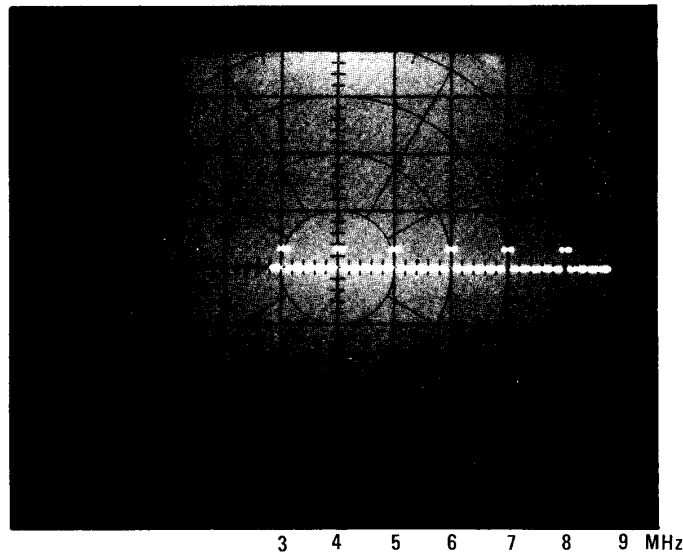

Figure 4-15. 4-MHz Marker Centered on CRT
4. Adjust TUNING until the 4 MHz marker is centered on the display. The trace is blanked below approximately 2.8 MHz, as shown in Figure 4-15.